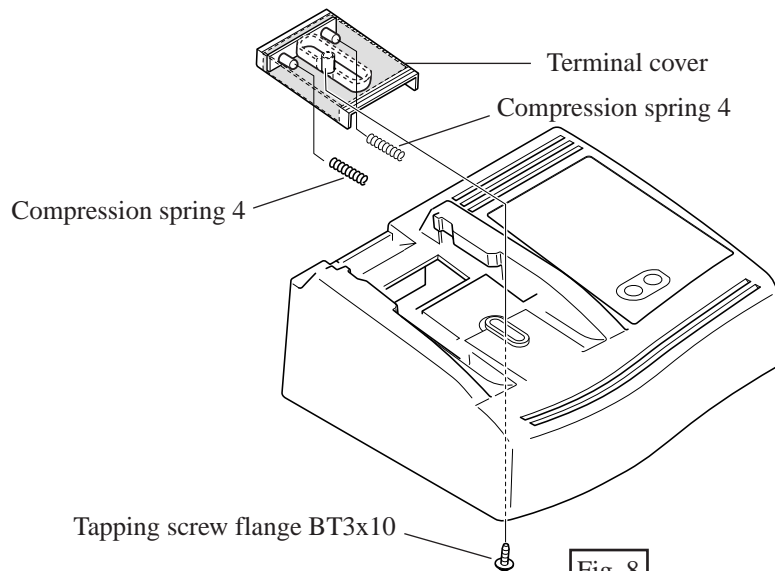

Fig. 8
- ( 2 ) Take off tapping screw flange BT3x10. Then, terminal cover can be removed from charger case. Be careful, not to lose 2 pcs. of compression springs 4 in this step. See Fig. 8.